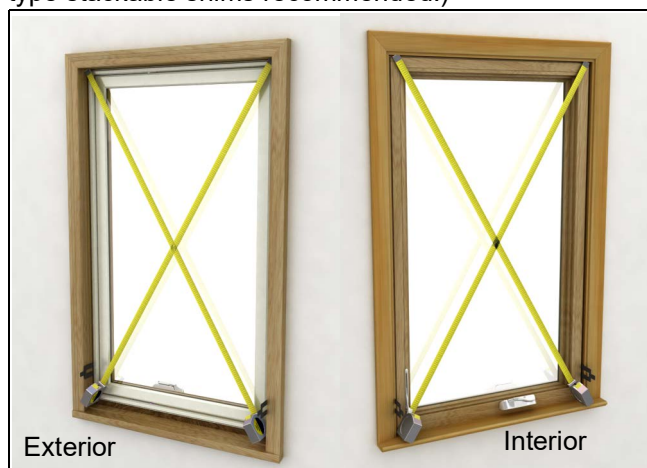

Figure 20
3. Place shims at the bottom corners at the pre-drilled screw holes in the jamb. See Figure 20. (Horseshoe type stackable shims recommended.)